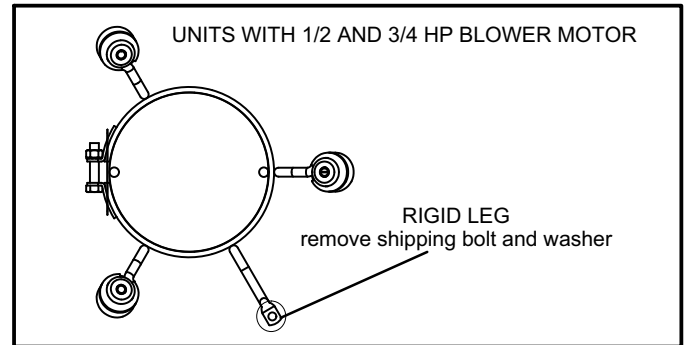

FIGURE 11
*NOTE - Units with 1/2 and 3/4 hp blower motors are equipped with three flexible legs and one rigid leg. See figure 11. The rigid leg is equipped with a shipping bolt and a flat white plastic washer (rather than the rubber mounting grommet used with a flexible mounting leg). **The bolt and washer must be removed before the furnace is placed into operation.** After the bolt and washer have been removed, the rigid leg will not touch the blower housing.*